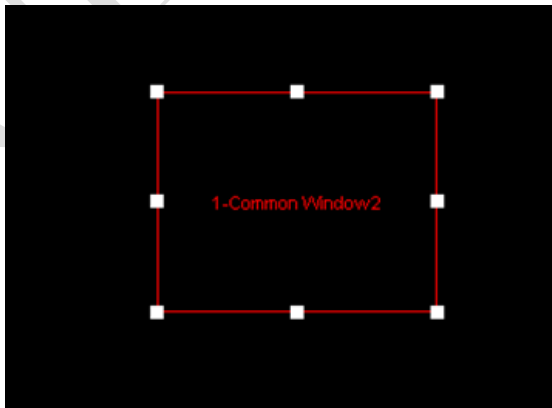

Figure 4-14 Adjusting the Window Size Using the Mouse
- Click the display window on the screen and adjust its size by using the mouse, as shown in Figure 4-14: